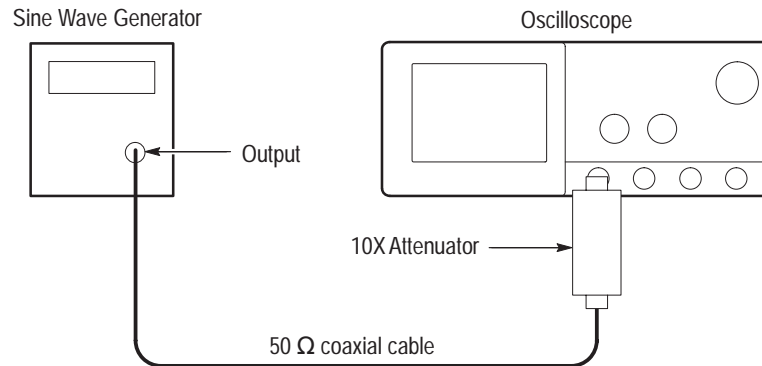

Figure 4–15: Initial test hookup
Do this through a 50 Ω precision coaxial cable, followed by a 10X attenuator. See Figure 4–15. The 10X attenuator is optional if the SG503 is used.
- c. *Set upper and lower limits that ensure triggering:* See Figure 4–16.